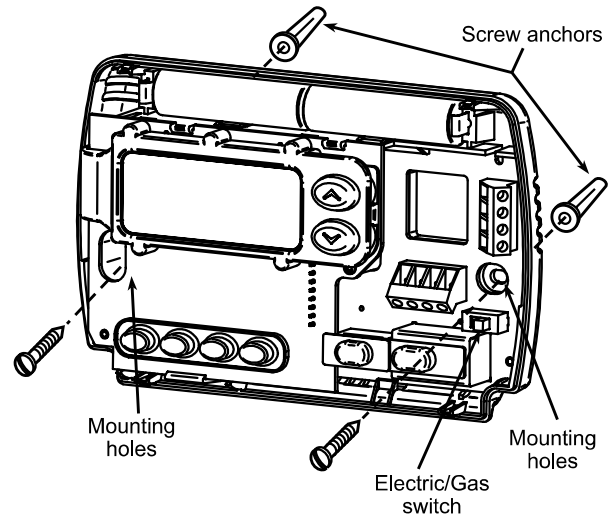

Figure 1. Thermostat Base
This thermostat is configured from the factory to operate a heat/cool, fossil fuel (gas, oil, etc.), forced air system. It is configured correctly for any system that DOES NOT require the thermostat to energize the fan on a call for heat. If your system is an electric heat or heat-pump system that **REQUIRES** the thermostat to turn on the fan on a call for heat, locate the **ELECTRIC/GAS switch** on the back of the thermostat (see fig. 1) and switch it to the **ELECTRIC** position. This will allow the thermostat to energize the fan immediately on a call for heat. If you are unsure if the heating/cooling system requires the thermostat to control the fan, contact a qualified heating and air conditioning service person.
5. Fasten base loosely to wall, as shown in fig. 1, using two mounting screws. Place a level against bottom of base, adjust until level, and then tighten screws. (Leveling is for appearance only and will not affect thermostat operation.) If you are using existing mounting holes, or if holes drilled are too large and do not allow you to tighten base snugly, use plastic screw anchors to secure subbase.
If "BATT" is displayed, the batteries are low and should be replaced with fresh "AA" Energizer® alkaline batteries. To replace batteries, install the batteries along the top of the base (see Fig. 1). The batteries must be installed with the positive (+) end to the left.